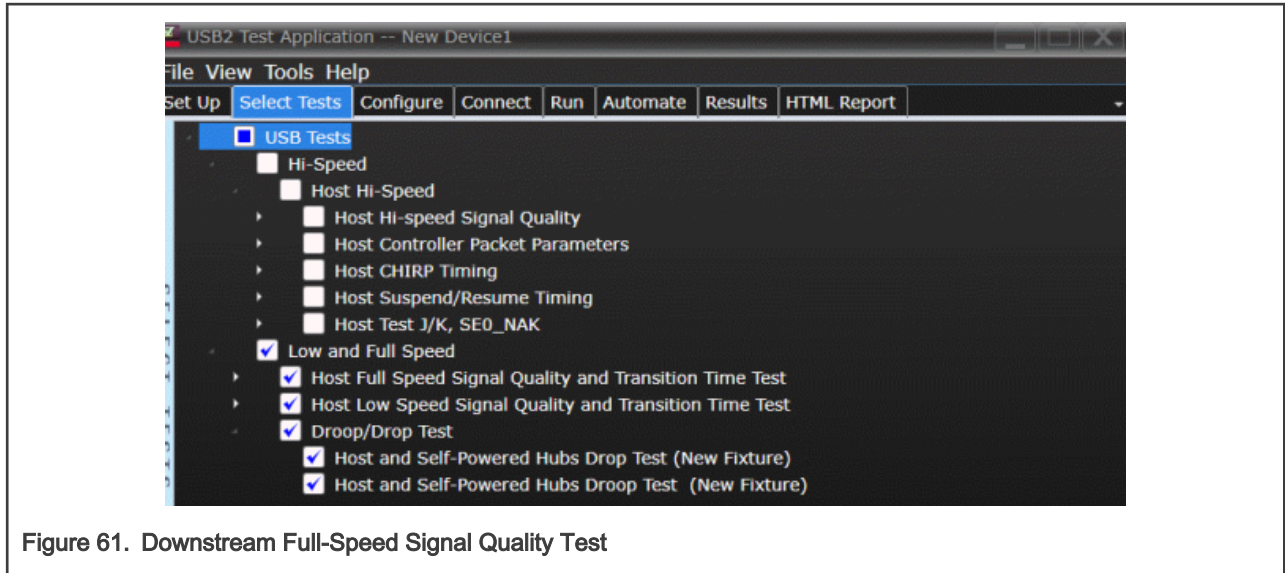

Figure 61. Downstream Full-Speed Signal Quality Test
1. Select the test items in the USB Automated Test software on the oscilloscope, as shown in Figure 61.
1. Select the test items in the USB automated test software on the oscilloscope, as shown in Figure 61.
1. Select the test items in the USB automated test software on the oscilloscope, as shown in Figure 61. Switch to **Set Up** tab and select **Keysight Droop Drop Fixture**.